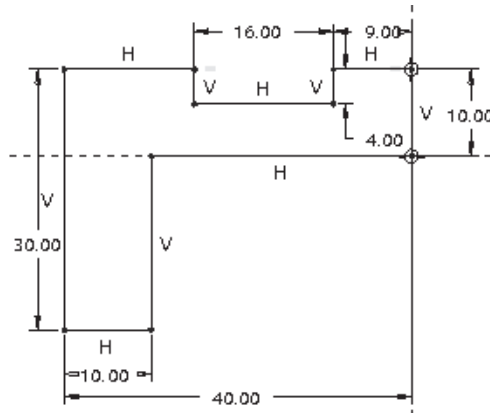

Figure 5-91 Sketch with dimensions and constraints for the base feature
- b. Create the base feature, refer to Figures 5-91 and 5-92.
From the model, the section to be extruded for the base feature is evident. The section sketch is shown in Figure 5-91. When this sketch is extruded, it will create the base feature.
1. Draw the sketch using various sketcher tools, as shown in Figure 5-91.
2. The sketch is dimensioned automatically and some weak dimensions are assigned to it. Add the required constraints and modify the weak dimensions, as shown in Figure 5-91.